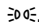

Fig. 50 Dashboard:
- Turn the light switch to **AUTO** ⇒ fig. 50.